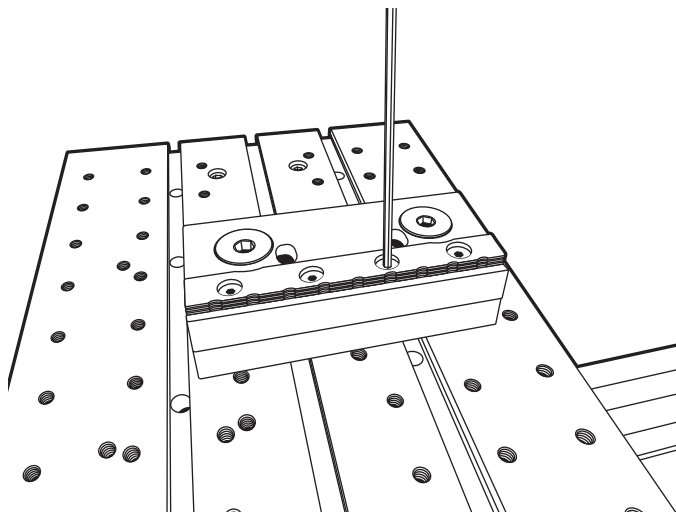

FIGURE 10—The serrated jaws
- Mount the clamping insert of your choice into the slot on the top jaw. The top jaw is designed to accept both inserts P/N 35526 and P/N 35524. When you mount the insert in the slot, push the insert down and back against the backside of the insert slot as you tighten the insert screws. Again, adding a thin coat of grease or anti-seize to the threads of the insert clamping screws is recommended (see Figure 10).